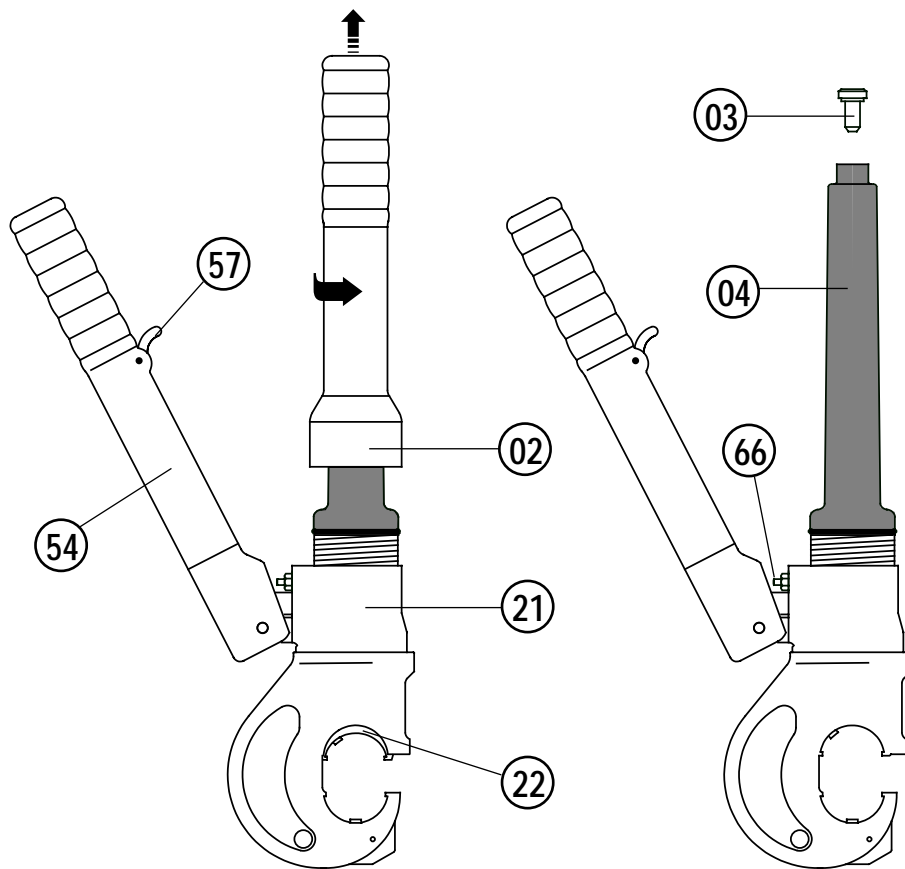

FIG. 4 TOOL POSITION FOR MAINTENANCE OPERATIONS
5. MAINTENANCE (Ref. to Fig. 4 and 6)